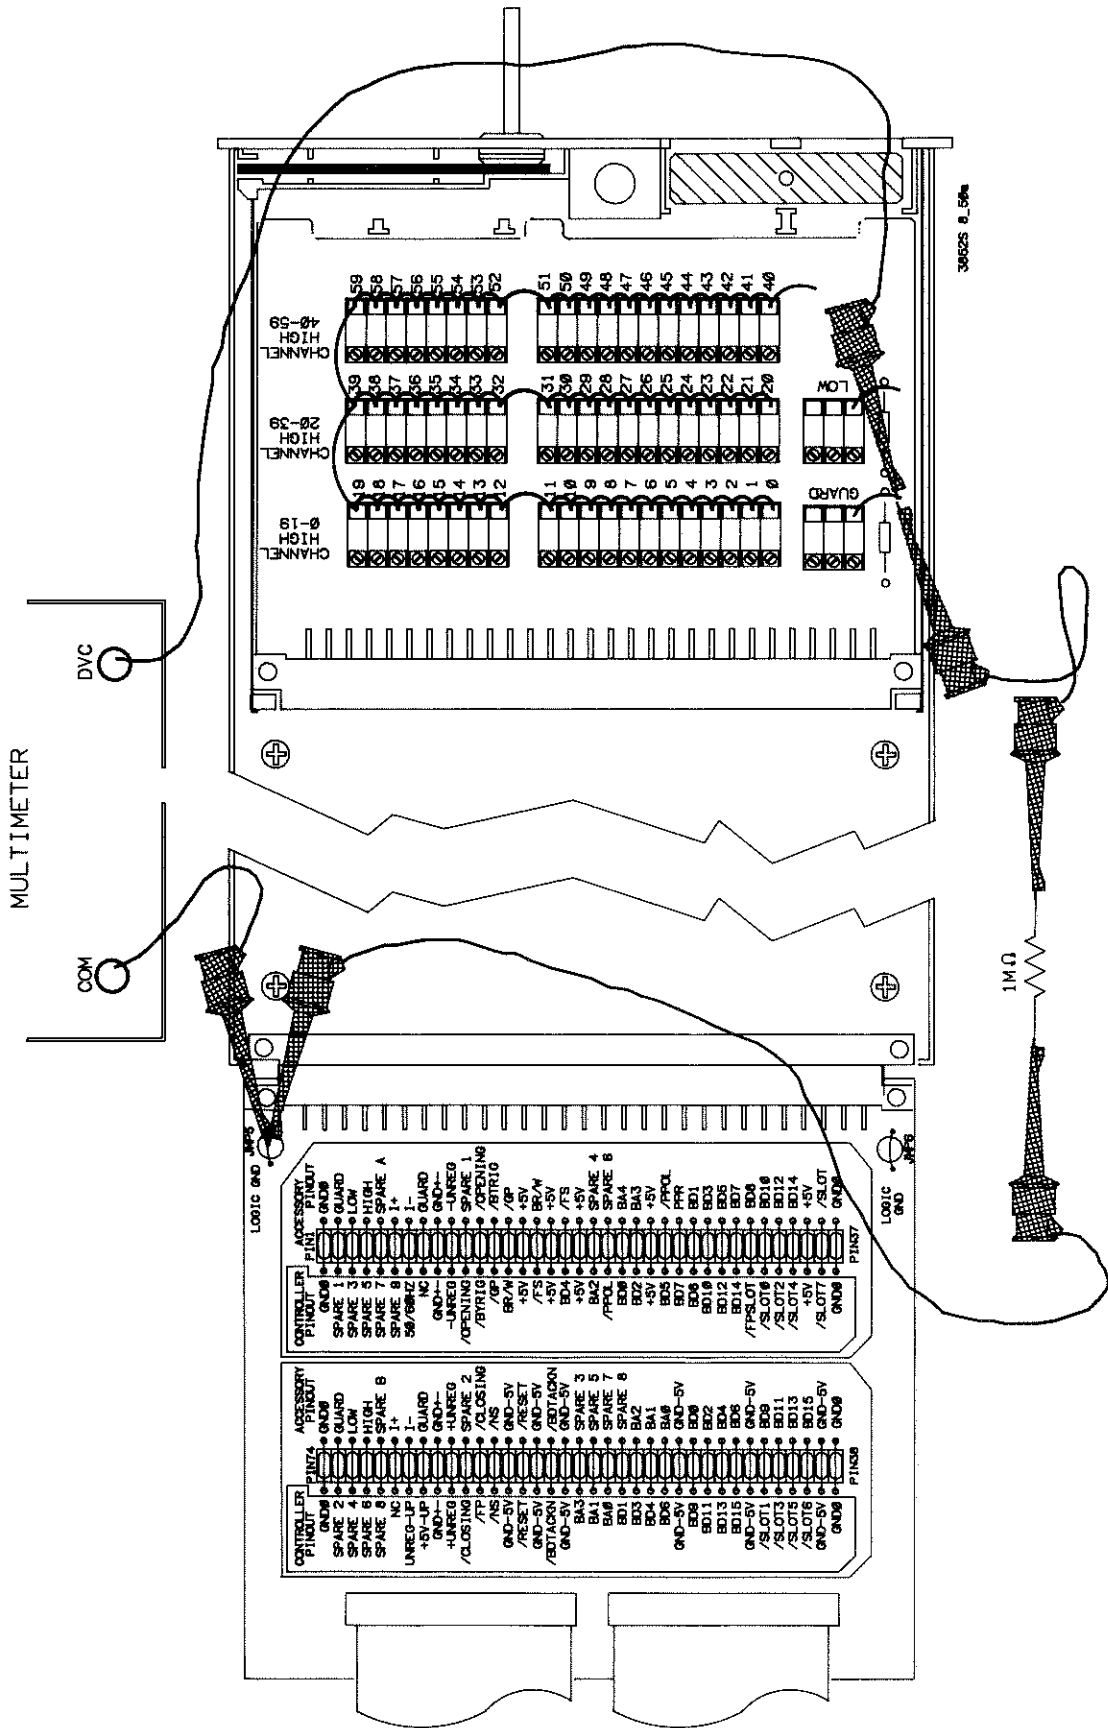

Figure 8-50 HP 44706A GUARD Lines Injected Current
12. GUARD LINES INJECTED CURRENT TEST. Move the multimeter DCV lead to the GUARD connection test point on the test fixture as shown in Figure 8-50.